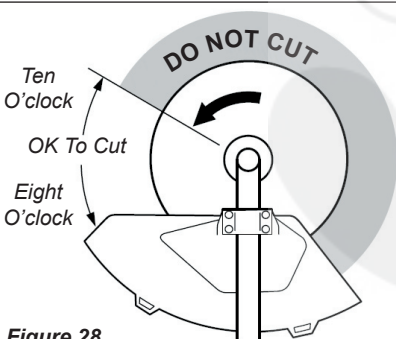

Figure 28
- Avoid blade thrust by keeping the blade in view during operation. Watch your cut at all times. Cut ONLY small trees and/or branches with the left side of the blade between the 8 o'clock and 10 o'clock positions as shown in Figure 28. Avoid cutting with any other part of the blade. When cutting brush, sweep the blade from right to left, always keeping the blade well in front. It is recommended that the blade be tilted down slightly to help keep debris from accumulating on the edge of the blade.